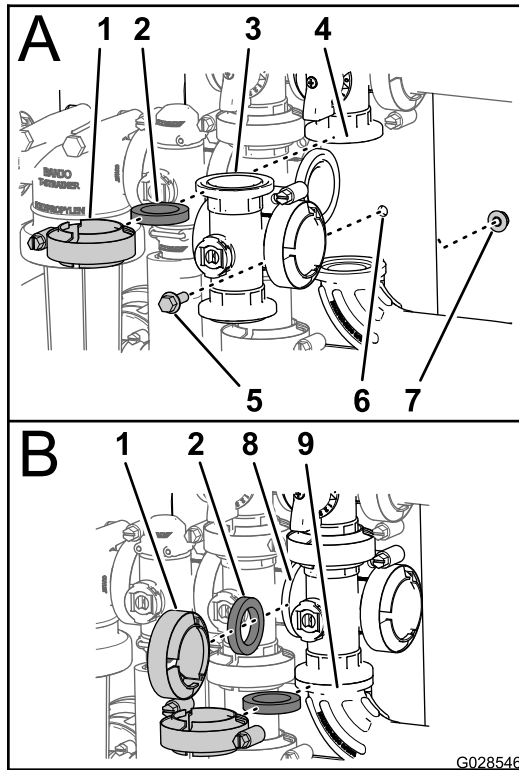

Figure 63
1. Align the flange of the master boom valve manifold, 1 gasket, and the flange of the master boom bypass valve (A of Figure 63).
2. Assemble the master boom valve manifold, gasket, and master boom bypass valve with a clamp tightened hand tight (A of Figure 63).
3. Align the flange of the master boom valve manifold, 1 gasket, and the agitation valve manifold (B of Figure 63).
4. Assemble the master boom valve manifold, gasket, and agitation valve manifold with a clamp tightened hand tight (B of Figure 63).
5. Align the flange of the master boom valve manifold, 1 gasket, and the 90° flanged elbow (at the end of the hose for the flow meter; refer to B of Figure 63).
6. Assemble the master boom valve manifold, gasket, and 90° flanged elbow with a clamp tightened hand tight (B of Figure 63).